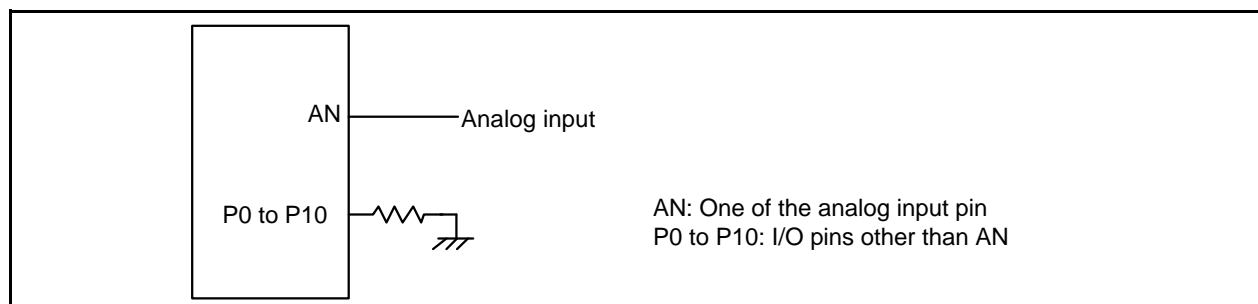

Figure 5.2 A/D Accuracy Measure Circuit
3. Flash memory rewrite disabled. Except for the analog input pin, set the pins to be measured as input ports and connect them to V_{SS} . See Figure 5.2 "A/D Accuracy Measure Circuit".
5. Flash memory rewrite disabled. Except for the analog input pin, set the pins to be measured as input ports and connect them to V_{SS} . See Figure 5.2 "A/D Accuracy Measure Circuit".